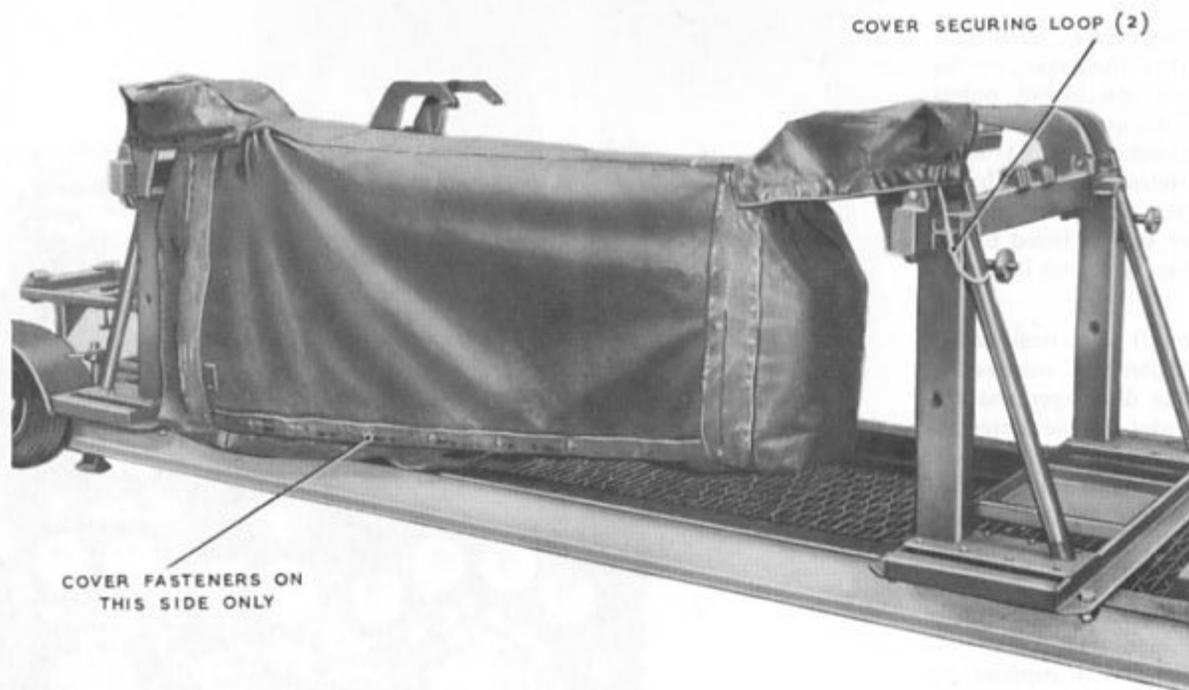

Fig 10 Discharger, with cover, mounted in cradle on Type F trolley
60. Replace the discharger cover (Fig 10).